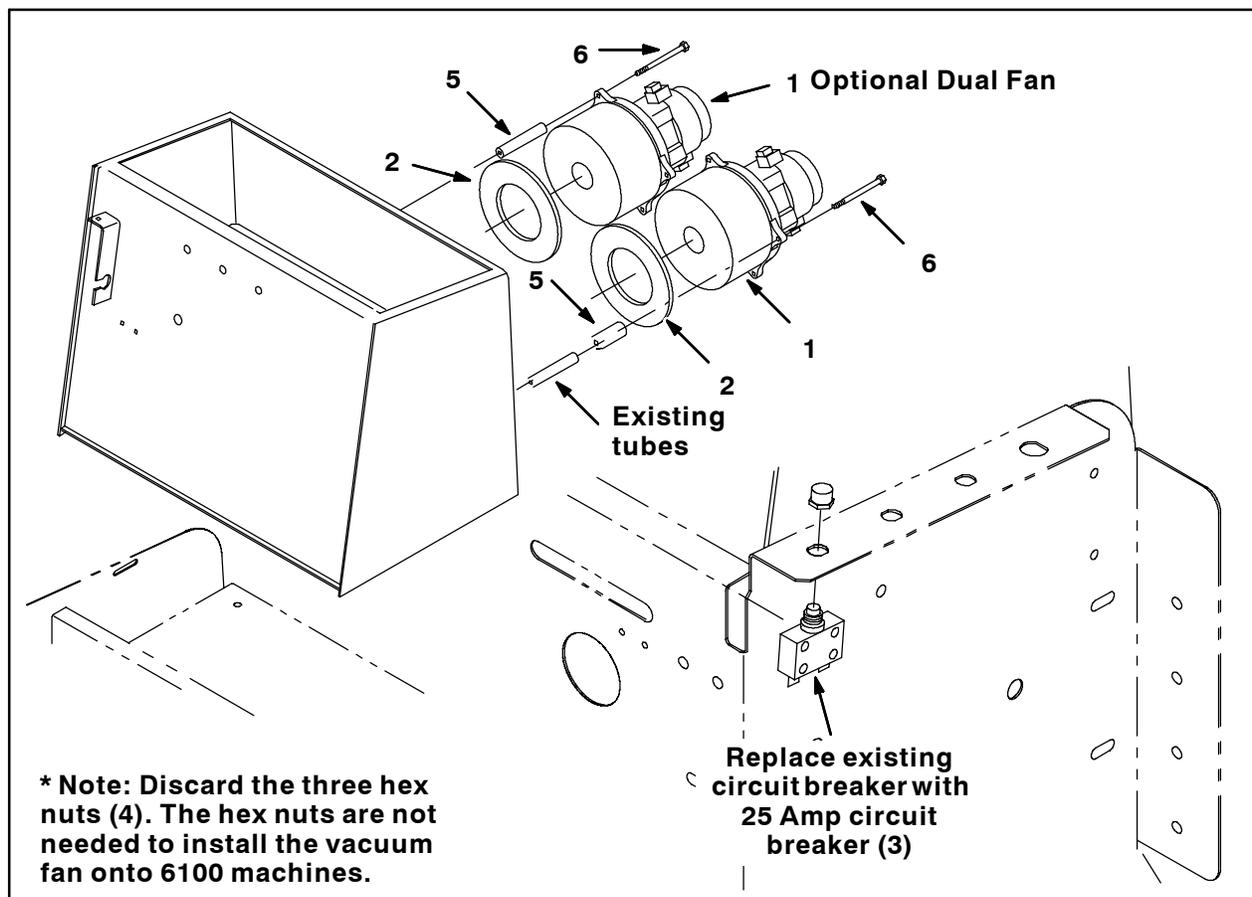

FIG. 4
1. Install the seal (2) onto the vacuum fan (1). Refer to Fig. 4.
2. Use three hex screws (6), three tubes (5), and the three existing tubes to install the new vacuum fan (1) onto the machine. Discard the three hex nuts (4). Refer to Fig. 4.
3. Remove the existing circuit breaker from the electrical panel. Refer to Fig. 4.
4. Install the 25 Amp circuit breaker into electrical panel. Refer to Fig. 4.